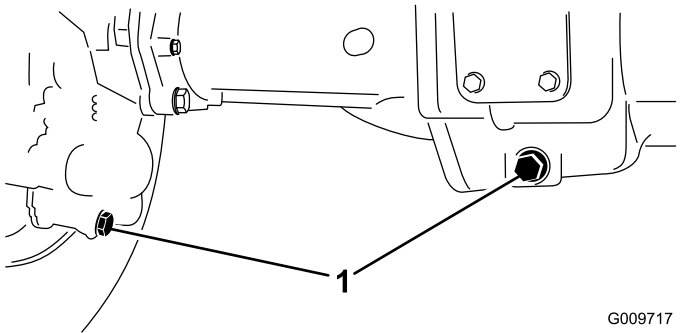

Figure 70
2. Clean the area around the 3 drain plugs—1 on each end and 1 in the center (Figure 70).